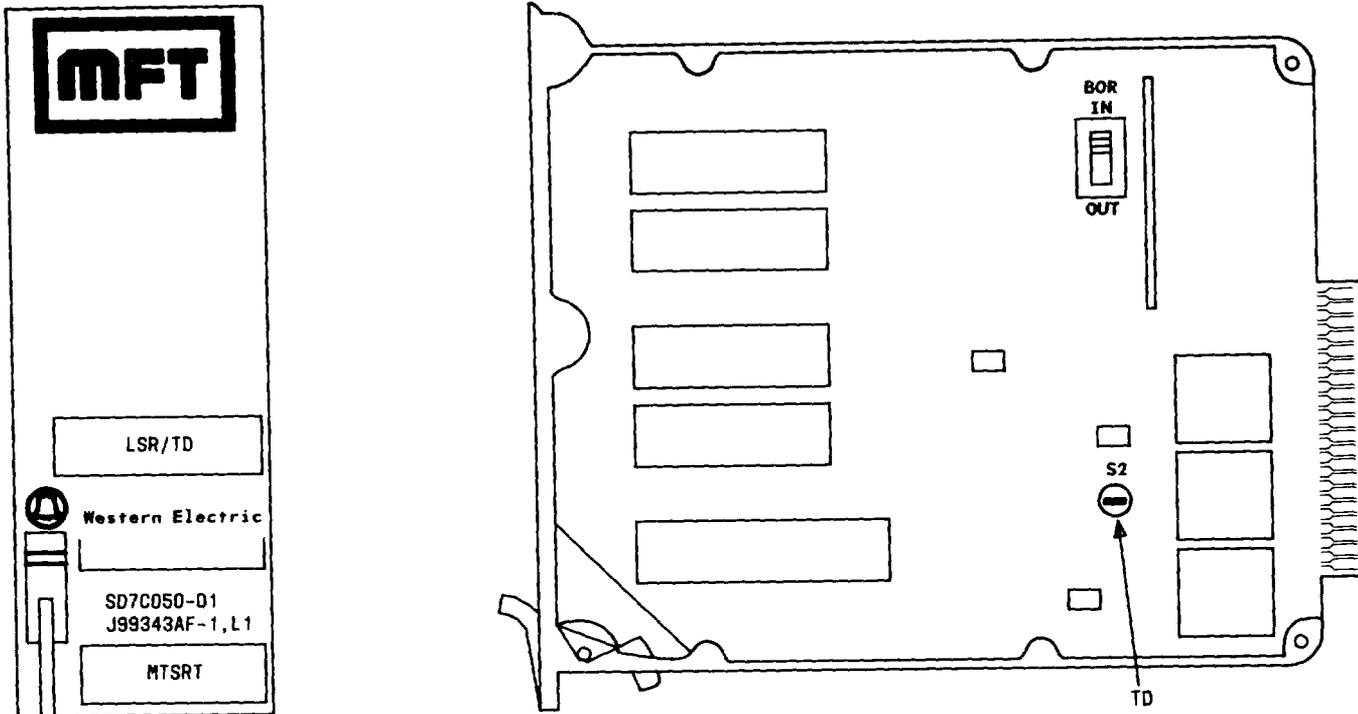

Fig. 4—J99343AF Layout
2.10 The LSR/TD is a new direct replacement repeater for the loop-start/ground-start LSR J99343AC and AH (see Fig. 4). It embodies the same signaling capabilities described in Part 2A